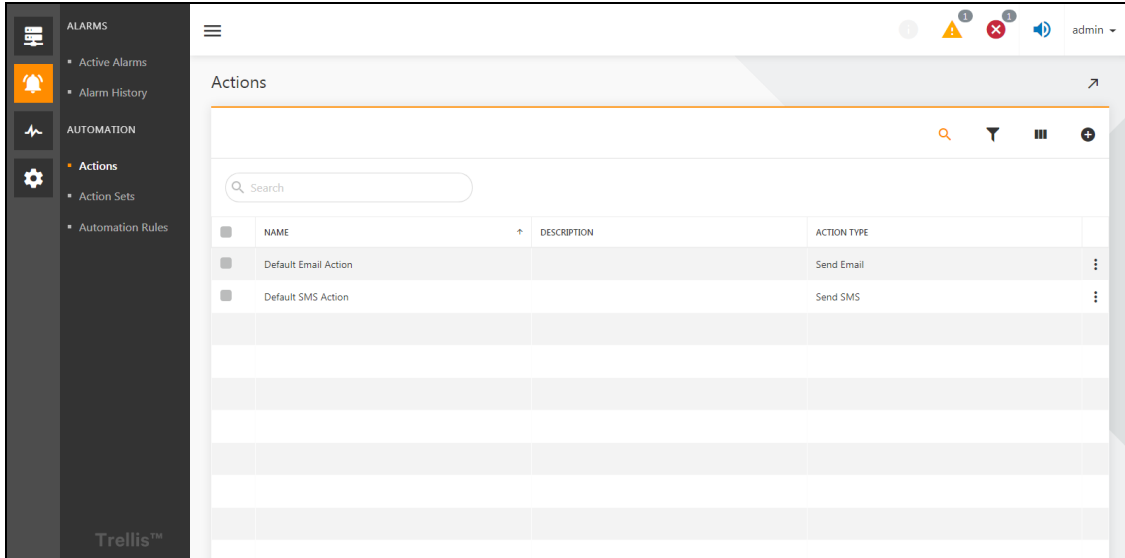

Figure 7.5
1. Click on the  icon, then click on the "Actions" to enter the Actions settings page, as shown in **Figure 7.5** on the next page. Click the button on the right to edit the default email notification action or the default SMS notification action.